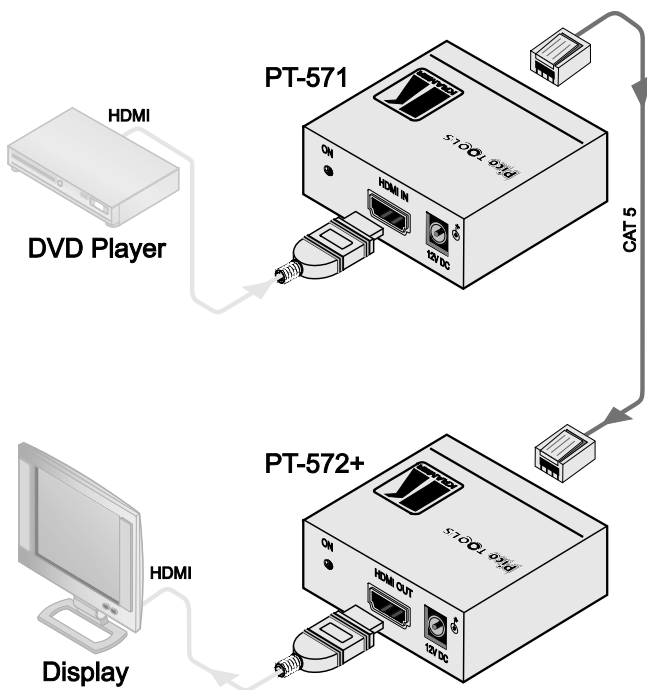

Figure 3: Connecting the PT-571/PT-572+ HDMI Line Transmitter/Receiver
To connect the **PT-571** to the **PT-572+**, as illustrated in the example in Figure 3, do the following:
4. Connect the 12V DC power adapter to the power socket on the **PT-571** or the **PT-572+** and connect the adapter to the mains electricity (not shown in Figure 3).